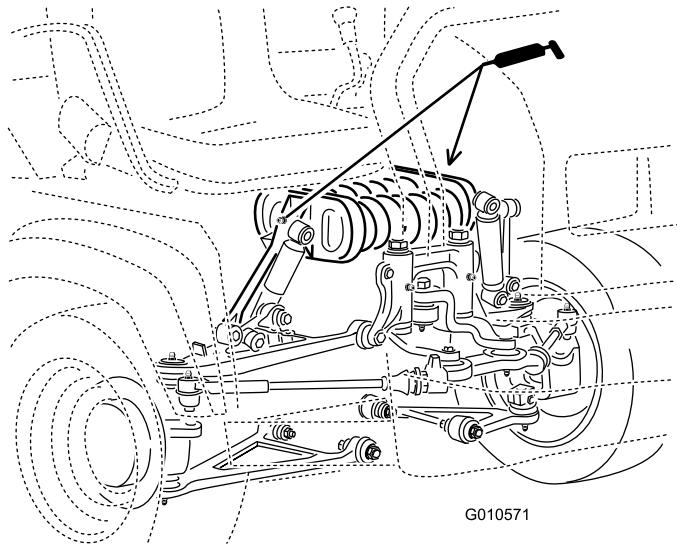

Figure 40
- Tour de ressort (2) (Figure 40)